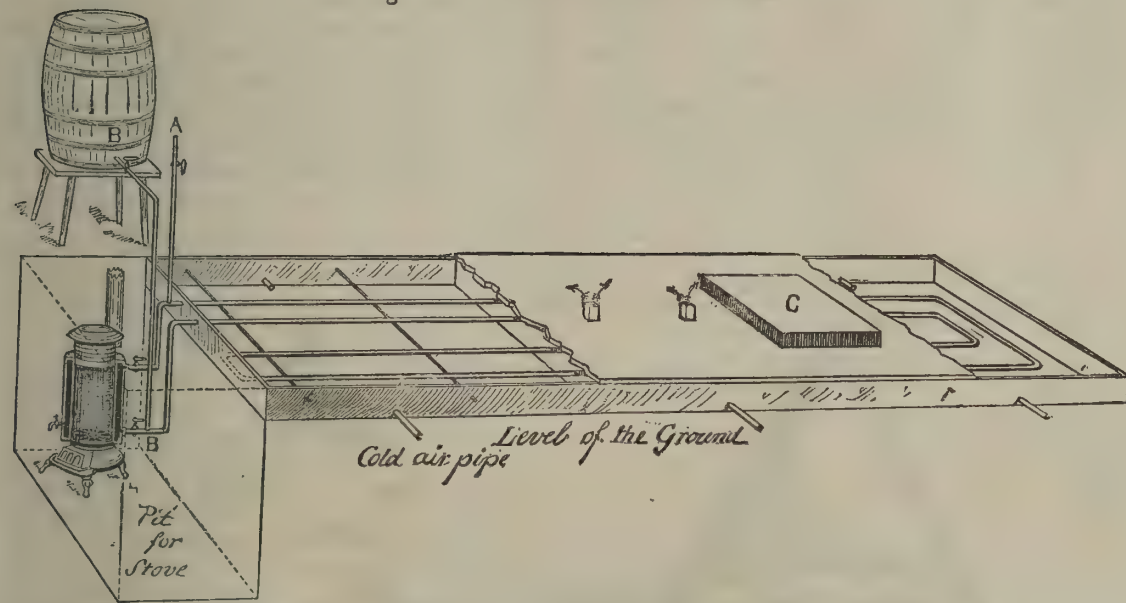

Fig. 2.—METHOD OF HEATING BROODERS.
The brooders are heated by hot water pipes (not steam) arranged as shown in Fig. 2. A stove with a circular water back (or boiler surrounding it) heats the water, which rises as it becomes heated, and flows into the pipes, returning to the boiler near the bottom of the stove. Observe the way the pipes are arranged, the first and last being together, thus evenly distributing the heat. A tube, half an inch in diameter (A), is intended to allow the escape of air in the pipes, and is also a safety valve. It is attached to the hottest or highest pipe. B is a keg or barrel filled with water, and connected with the lower pipe, to give pressure to the water. The stove is in a pit, below the ground,